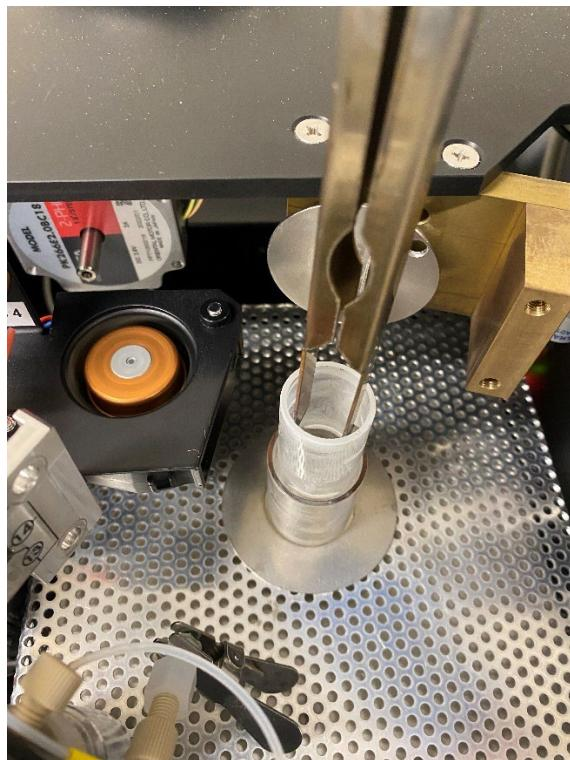

Figure 15: The use of tongs to remove the ash finger from the top of the combustion tube.
3.9.2.3 Remove the protective tube and ash finger from the combustion tube (Figure 15).